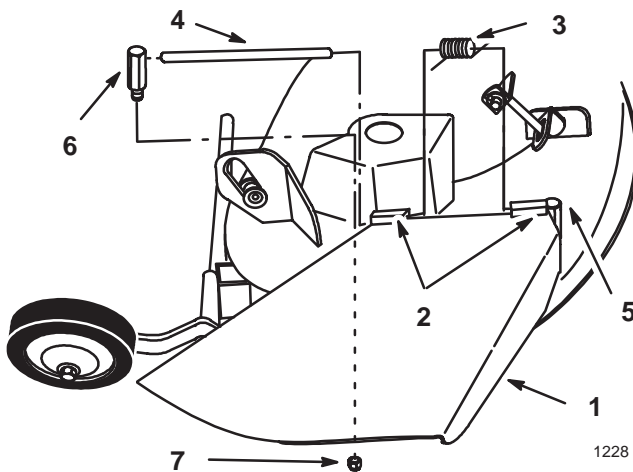

Figure 1
1. Locate items show (Fig. 1).
4. Insert rod at front of discharge chute into short stand-off on deck. Secure rear end of rod to deck with long stand-off and nut (Fig. 1).